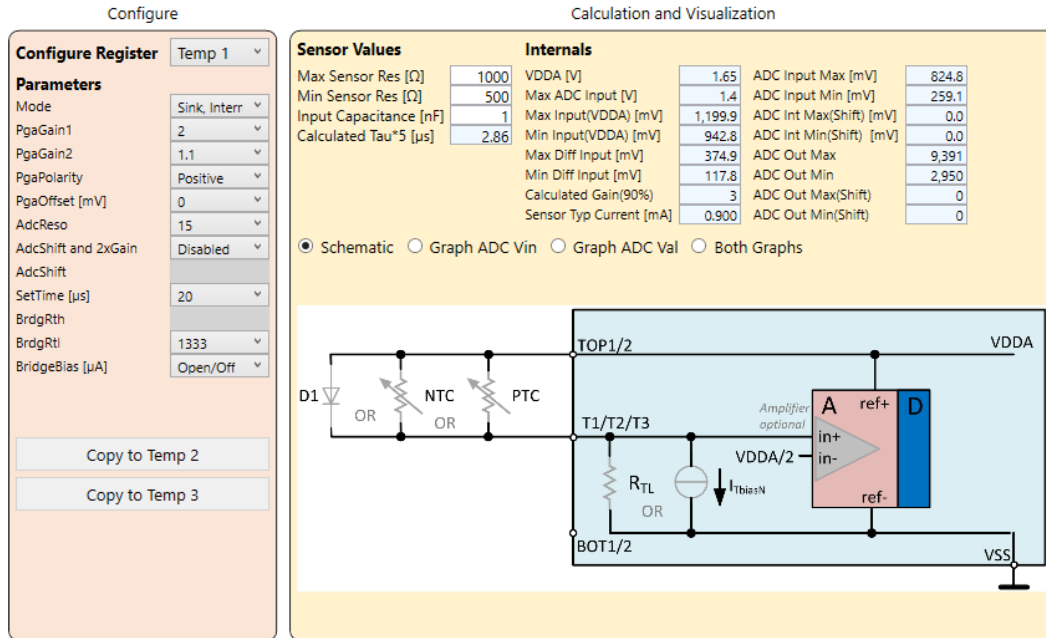

Figure 54. Temp – Mode Sink Internal Bias
- Sink, Internal Bias: The transducer (Diode/NTC/PTC) is supplied by an internal voltage source or by an internal configurable current source tied to the VSS rail (GND) (Figure 54).